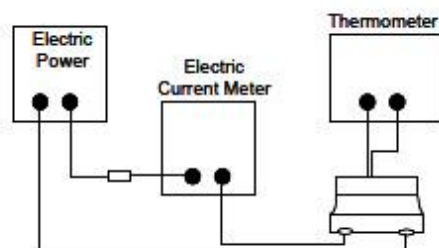

Fig.5.3.4-1
- Definition of Temperature rise current: DC current that causes the temperature rise ($\Delta T = 40^\circ\text{C}$) from 20°C ambient (see Fig. 5.3.4-2).